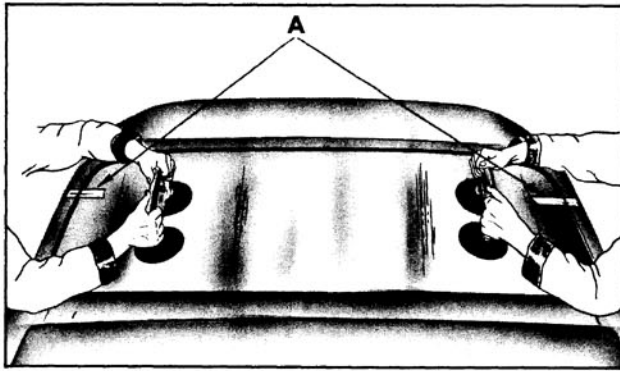

Fig. 16-468 Back Window Installation
8. After final adjustments have been made and glass is in proper position in opening, apply a piece of masking tape horizontally over each side edge of glass and rear quarter extension. ("A", Fig. 16-468) Slit tape vertically at edge of glass so that when glass is being installed, tape on glass can be aligned with tape on body and serve as a guide.